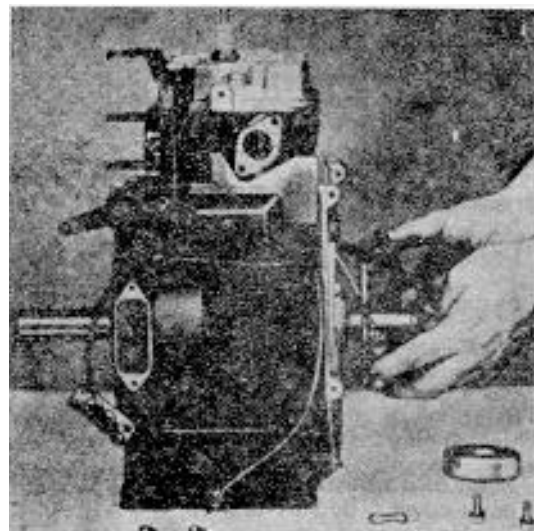

Figure 31
- b. Figure 31 shows magneto installation. Note how breaker lead and high tension spark plug cable are pulled through plate opening.